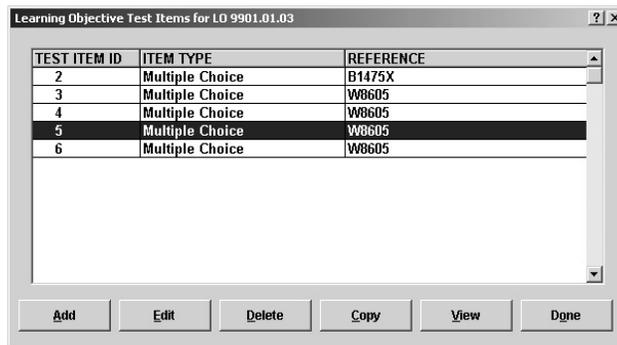
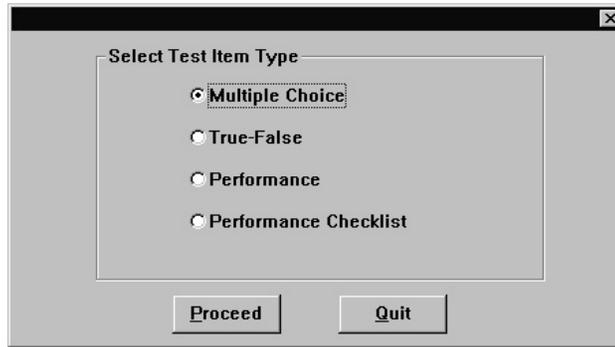

Figure 6-63. Learning Objective Test Items for LO
Figure 6-64. Select Test Item Type
2. Click on Test Items. The Learning Objective Test Items for LO selection list box (Figure 6-63) opens. Note that the title bar identifies the TLO or ELO designator with which you are working.
1. From the Learning Objective Test Items for LO selection list box (Figure 6-63), click on **Add**. The Select Test Item Type dialog box (Figure 6-64) opens.